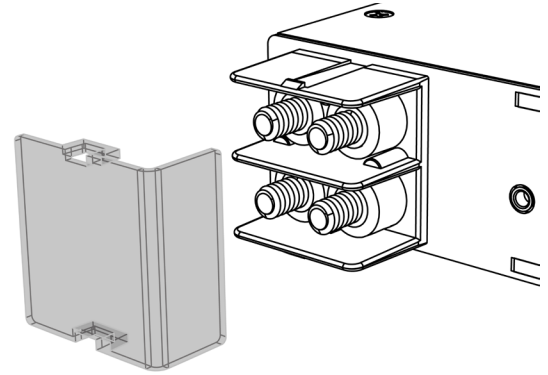

Figure 12. Input safety covers
Step 1. Remove the plastic input safety covers by pulling away from panel (see Figure 12).